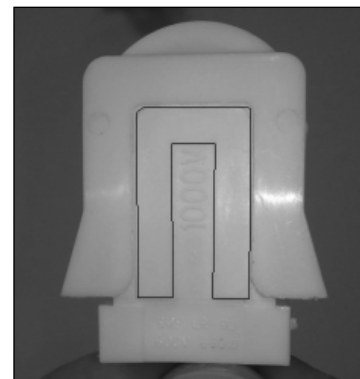

Fig. 7 Positive engagement
3. Push and snap the new T-8 lamp into place on the lamp holder. When the T-8 is properly seated, the lamp button - which secures the T-8 to the lamp holder - will be clearly visible through the lamp button hole. The cap should be pushed all the way down (Fig. 7) for positive engagement indicator.